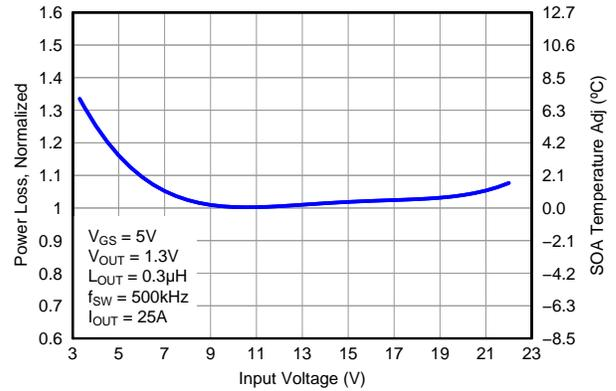

Figure 7. Normalized Power Loss vs Input Voltage
- Normalized Power Loss for input voltage  $\approx 1.05$  (Figure 7)
- SOA adjustment for input voltage  $\approx 1.05^\circ\text{C}$  (Figure 7)